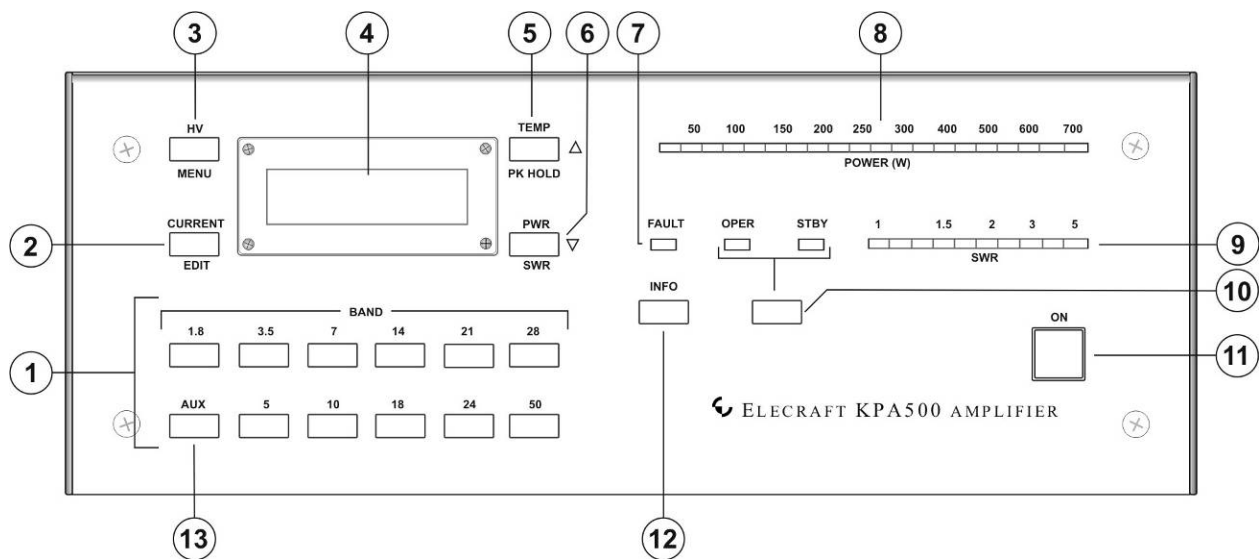

Figure 5. KPA500 Front Panel.
- Connect the mains supply cable to ② on the rear panel and plug the cable into the mains outlet.
- Position the rear-panel power switch ③ to On (I).
- Tap the front panel **ON** switch (⑪ on Figure 5). The LCD should light.
**⚠ The red FAULT LED (⑦ on Figure 5) will light when you tap the **ON** switch to protect your KPA500 if the power supply voltage is too far above the upper limit. Use a power transformer tap lower on the above table and retry the test.**